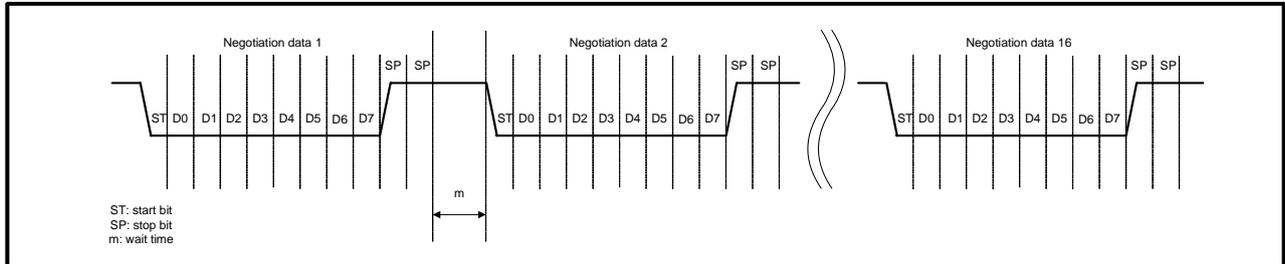

Figure 2. Negotiation Data Transmit Operation
- D) Sixteen negotiation data 00h are transmitted from the TxDi pin after setting the given bit rate. Figure 2 shows an example of the negotiation data transmit operation.